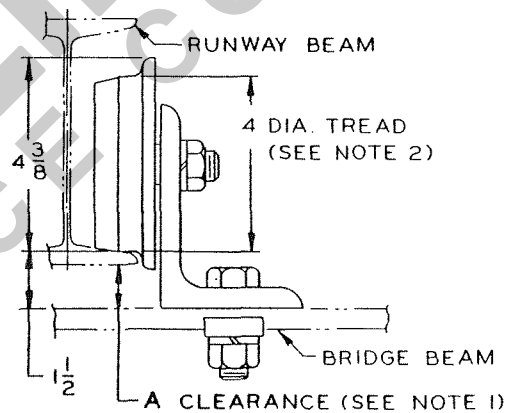

FIGURE 4
1. For clearance between runway beam and bridge beam (Dimension A in Fig. 4) Subtract toe of beam from 1-1/2 inches.